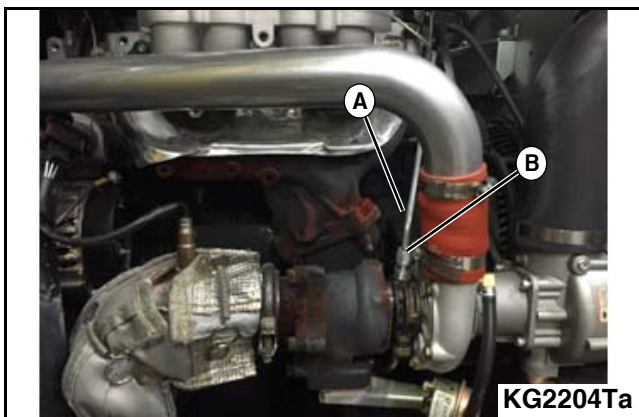

Figure 3-54
6. Connect the turbo oil feed line (A) onto the fitting on the turbocharger. Apply a light coating of engine oil to the fitting thread. Tighten the nut (B) onto the fitting to $16 \pm 1 \text{ N}\cdot\text{m}$ ($11.8 \pm 1 \text{ ft}\cdot\text{lb.}$). **See Figure 3-54.**